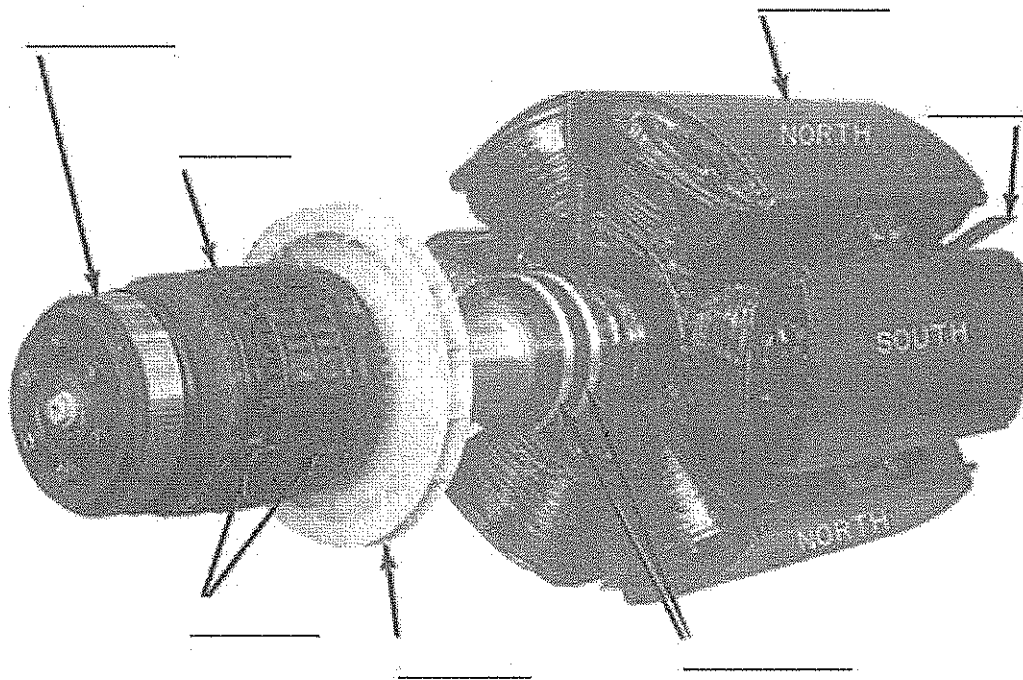

Figure Q4(a): Salient-pole rotor
- (i) The stator encased in the housing of the rotor shown in figure Q4(a) in the returnable copy is subjected to a line-to-line voltage with the following expression: